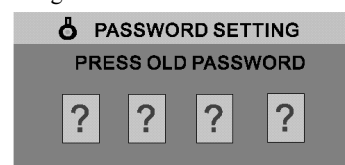

Figure 2
4. Press the SET key advance to the next menu (See Figure 2 - Parental Guidelines Rating).
5. Press the default factory passcode 0,0,0,0 if you’re setting this passcode for the first time. If you’ve previously set the passcode, then enter your the set passcode. If it is entered correctly, then a new passcode menu will be displayed (see Figure 2).